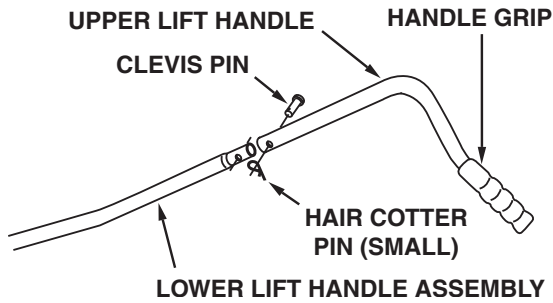

Figure 5
11. Assemble the handle grip onto the upper lift handle. See figure 5.
12. Place the upper lift handle onto the lower lift handle assembly. Align the holes and secure with the clevis pin and a small hair cotter pin. See figure 5.